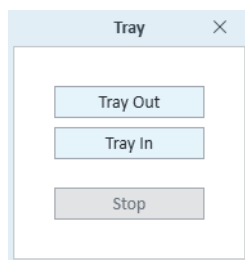

Figure 40 Tray control widget
- 1 Click the **Tray Widget**. (See Figure 40.)
- 1 Click the Tray Widget. (See Figure 40 on page 39.)